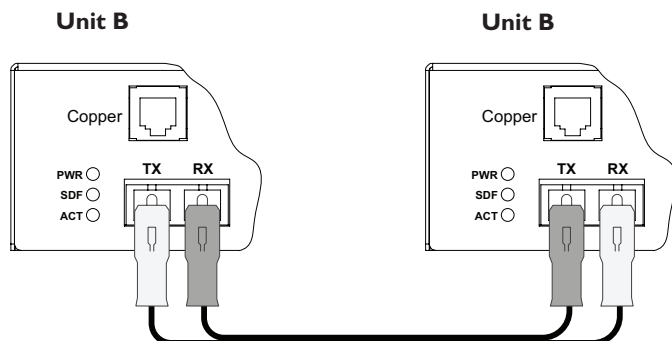

Figure 11: Connect Fiber Cable for Automatic Ring-Down Configuration
1. Install the barrel connector of the AC power cord to the external power connector on back of the SAPTF33xx-1xx module. See Figure 11.